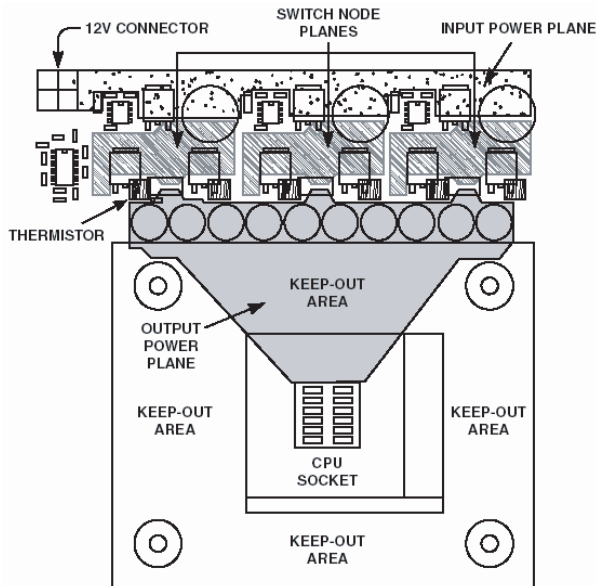

**Figure 10. Transient Setting Waveform**
21. For load release (see Figure 10), if VTRANREL is larger than VTRAN1 (see Figure 9), you do not have enough output capacitance. You will either need more capacitance or to make the inductor values smaller (if you change inductors, you need to start the design over using the spreadsheet and this tuning procedure).